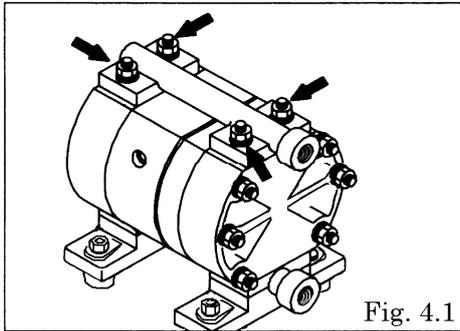

Fig. 4.1
- Remove the 4 retainer nuts from the out manifold, and remove the out manifold. [Fig.4.1]
- Remove the ball and valve seat (see Fig. 4.1).